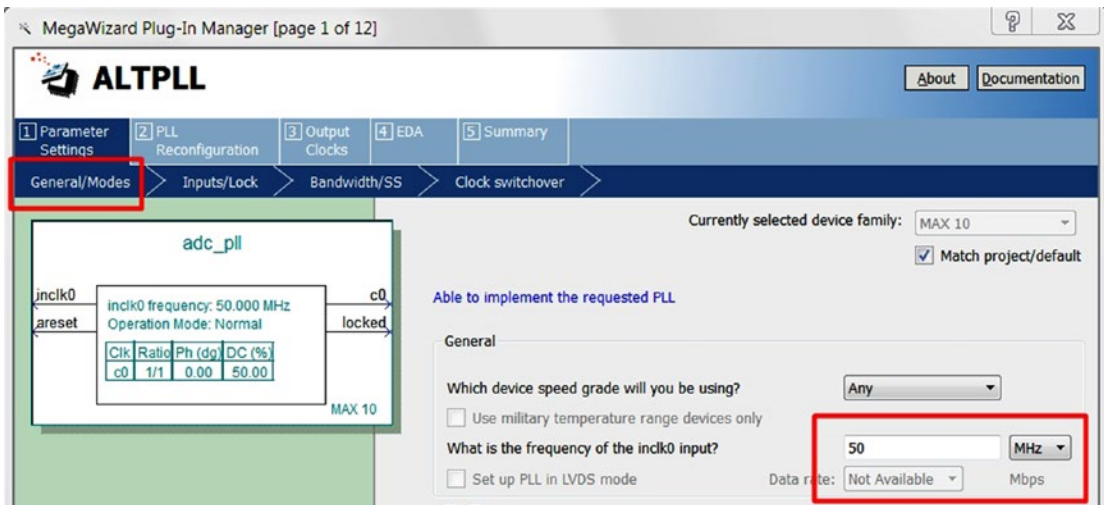
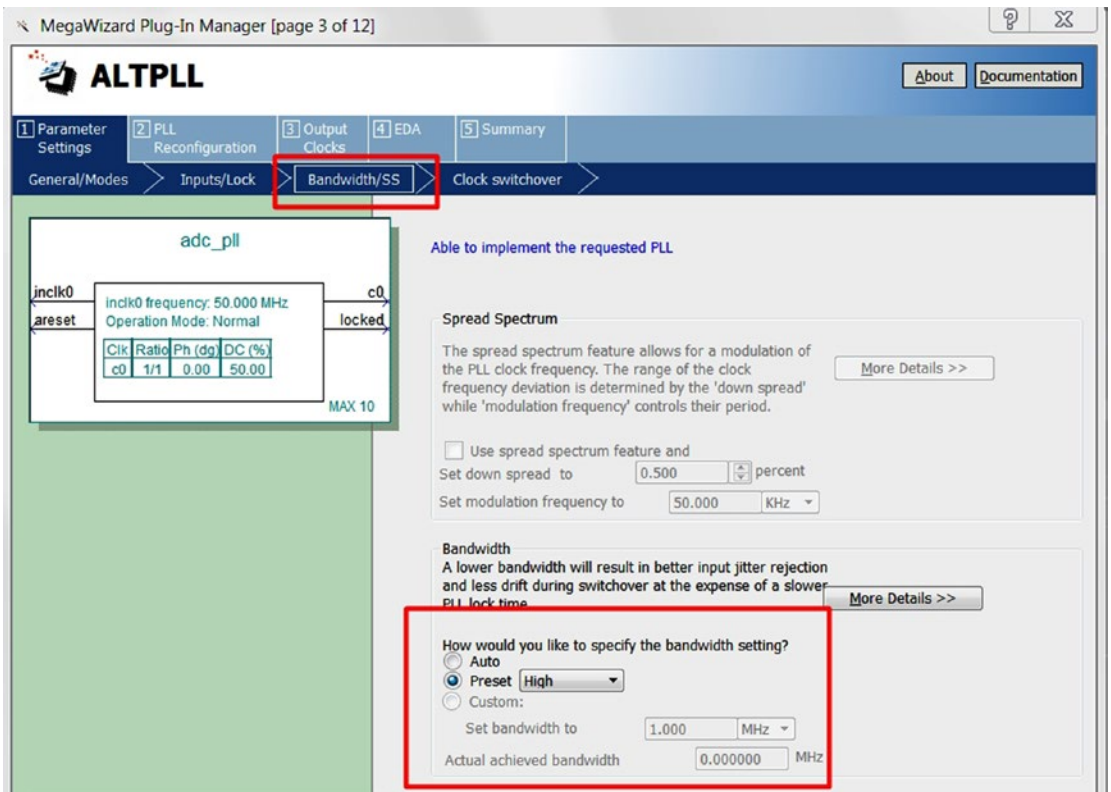

Figure 12-18. MegaWizard Plug-In Manager for ADC IP—1
Figure 12-19. MegaWizard Plug-In Manager for ADC IP—2
Step 3: A MegaWizard Plug-In Manager window will appear as in Figure 12-18. Under the **1: Parameter Settings** tab, on the **General/Modes** tab, change the `inclk0` input to **50 MHz** which is the on board clock frequency. On the **Bandwidth/SS** tab in Figure 12-19, change the Bandwidth Setting to **Preset High**.